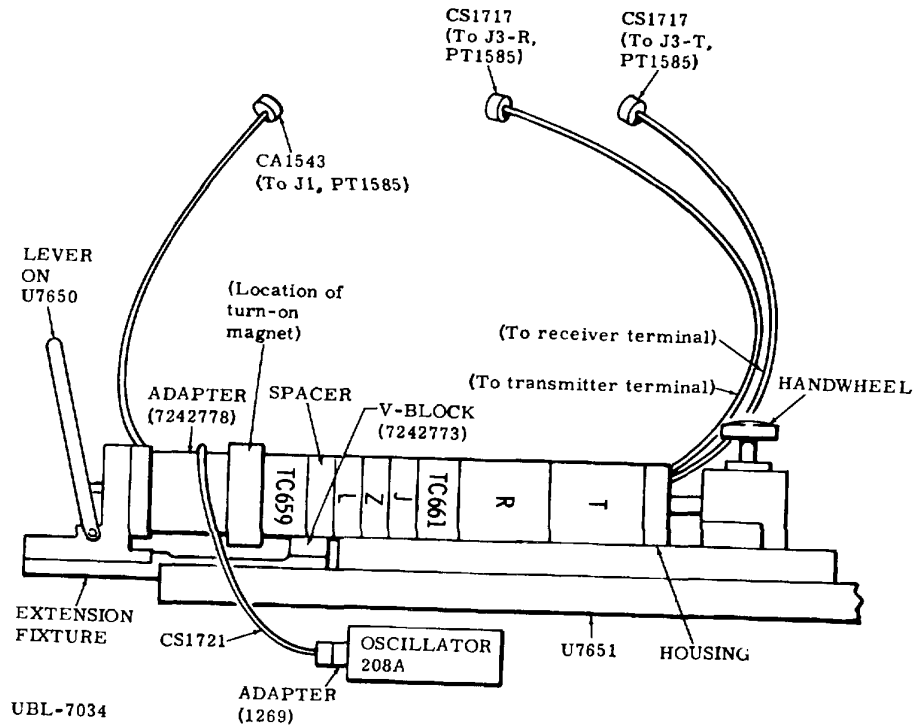

Figure 4-3T. Test Setup for MA 133 AUDET (H)
d. Starting at left end of stack shown in figure 4-3T, place first module in U7651 tray so that male pins are at left and epoxy-filled MA133 AUDET (H). groove in
h. Assemble other components as shown in figure 4-3T.
b. Center Hamlin magnet (H-34) longitudinally over epoxy-filled groove in TC 659 module (figure 4-3T).